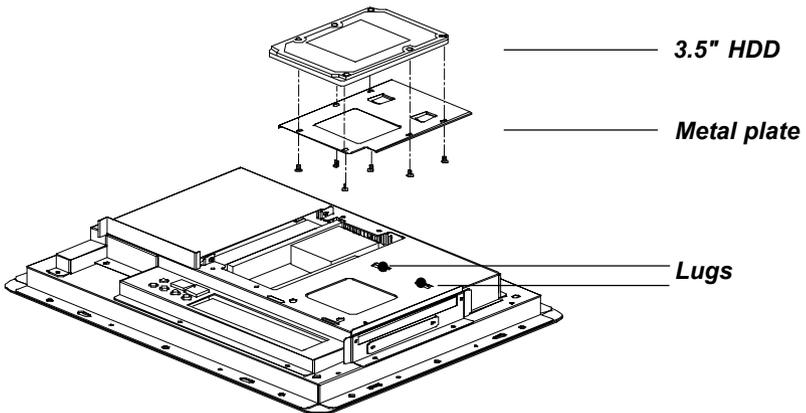

Figure 4-2: Installing the primary 3.5" HDD
2. There is a metal plate which holds the HDD to the upper right-hand side of the metal shielding case. (See Fig. 4-2.) Remove the two screws on the metal plate.